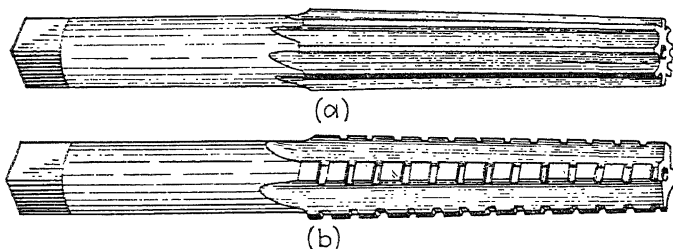

FIG. 138.—Hand reamers for taper holes. (a) Finishing; (b) roughing.
**148. Taper Reamers.**—Taper reamers, for both roughing and finishing (Fig. 138), are made for all of the standard sizes of tapers. The end of the shank of the hand reamer is cut square to receive the wrench and the reamer should always be turned by hand. As the chips do not fall out readily a taper reamer should be removed often and cleaned.